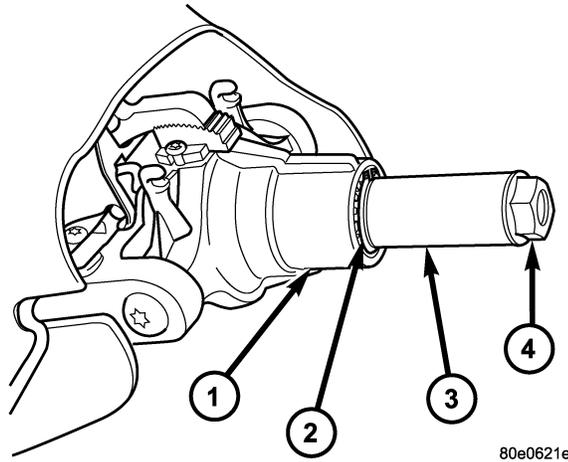

Fig. 2 SNAP RING INSTALLATION USING TOOL 05083385AA
- 2 - ****SHIMS (2)****
21. From the parts package, use special tool 05083385AA (Installer) and place it over the steering shaft so the one end of the tool is resting on the snap ring (Fig. 2).